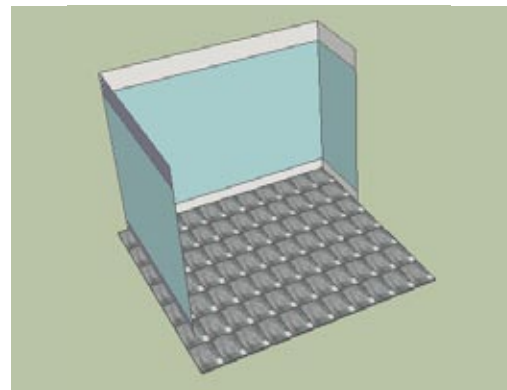

Figure 14-27
5. Use the Component Options to reduce the floor height to 3" (so the base molding will be visible), and change the tiles to 12"×18". You can also change the floor material if you like. The resulting floor should look like Figure 14-27: the tiles extend past the corner at the origin. This is because the 12" x 18" tiles don't fit perfectly in a 126"×102" room.